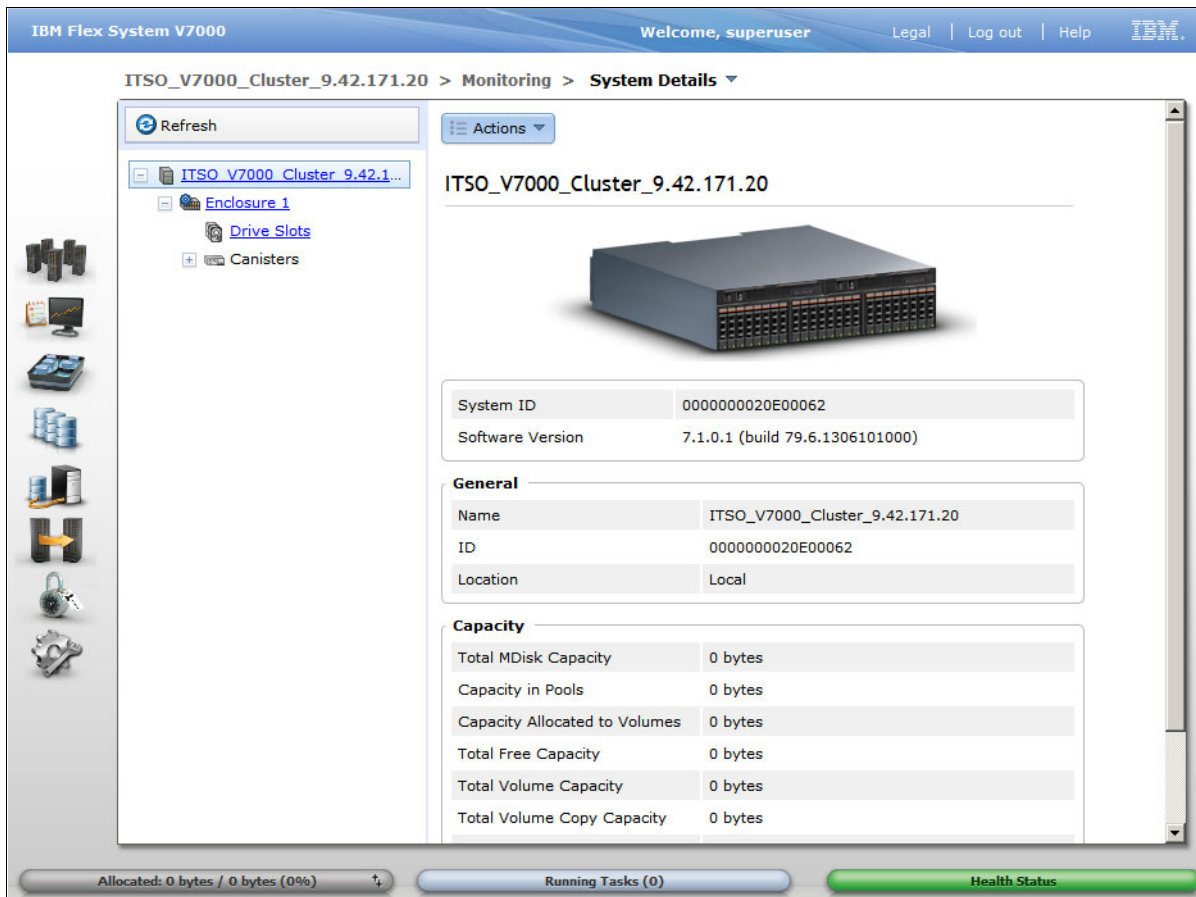

Figure 6-133 IBM Flex System V7000 Storage Node home overview window
- After you successfully log in, the IBM Flex System V7000 Storage Node System Details window opens. IBM Flex System V7000 Storage Node initial configuration is complete and the cluster is up and running, as shown in Figure 6-133.